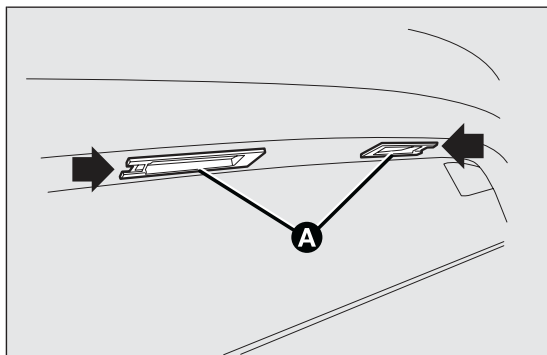

fig. 172
- ☐ operate in the point indicated by the arrows and remove the lens units A fig. 172;